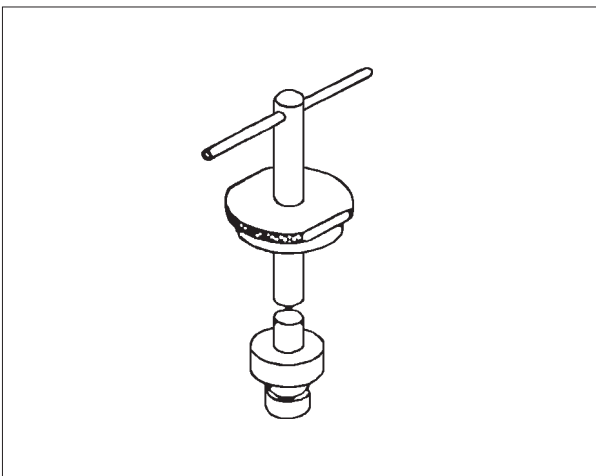

Fig 3 Grinding tools for seat for fuel and liner injection valve.
21. Grind the seating face, if necessary, with the grinding tool (see fig 3).